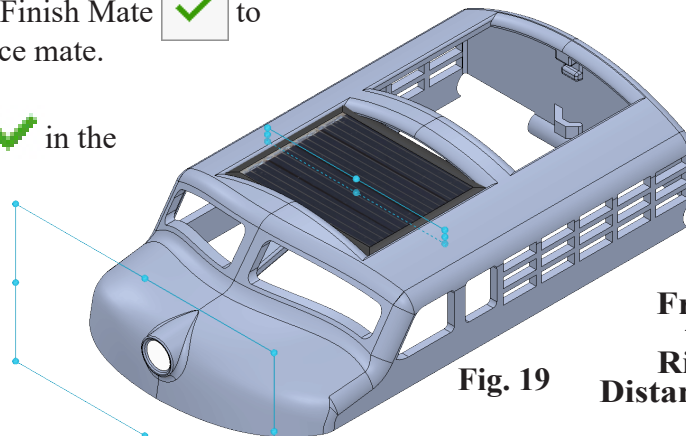

Fig. 19
Step 7. Click **Distance** in Mate pop-up, Fig. 18. Set distance **47.2** and press ENTER. The Panel should be positioned over Hatch, Fig. 19. If positioned in opposite direction, click **Flip Dimension** in the Mate pop-up. Click Add/Finish Mate to add Distance mate.